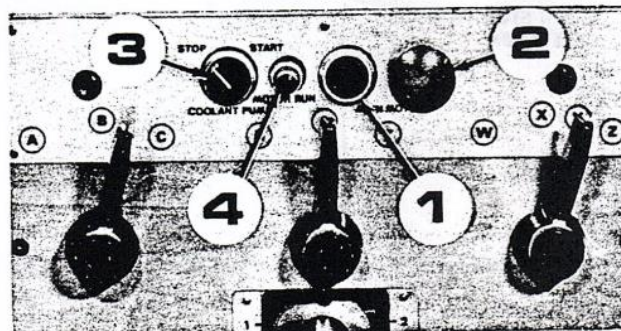

Fig. 7
Control switches for pump motor are fitted in front panel of headstock, see Fig. 7.
**ELECTRICAL CONTROLS (See Fig. 7)**